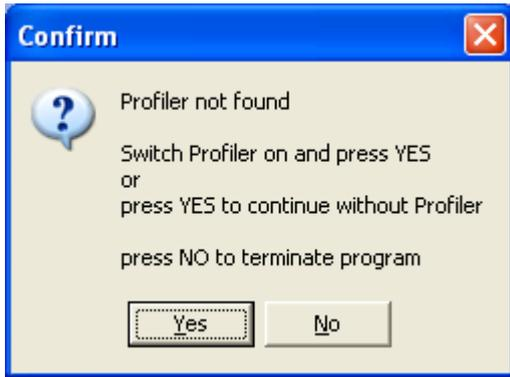

Fig. 1.1 Start up error message. (fig-0-0525)
When the program is started the configuration file (ProfiDoit.ini) is loaded. In this file is the communication port to the Profiler set. The program checks if this port is registered in the operating system and can be opened for communication with the Profiler. In case this port is not found in the computer system or can't be opened, an error message (Fig. 1.1) is displayed and the program can be continued (press 'YES') without connection to the Profiler or is terminated (press 'No').
- 1. Fig. 1.1 Start up message.